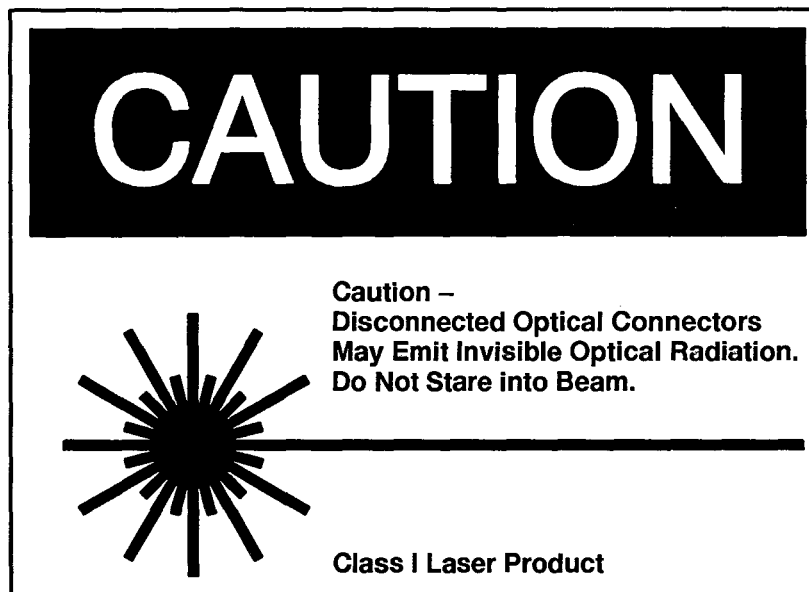

Figure 7. Sample Caution Label for a Class I Laser Product
- Read and follow the information on all caution/warning/danger labels before you apply power to the module. Figure 7 illustrates a sample caution label for a laser product.